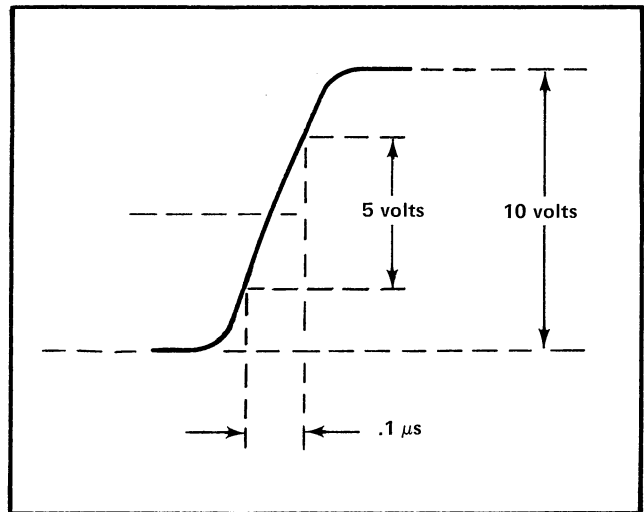

Fig. 5-6. Optimized representation of Slew Rate display.
e. Reconnect the Test Scope Input to display the 26A1 OUTPUT (see Fig. 5-6).